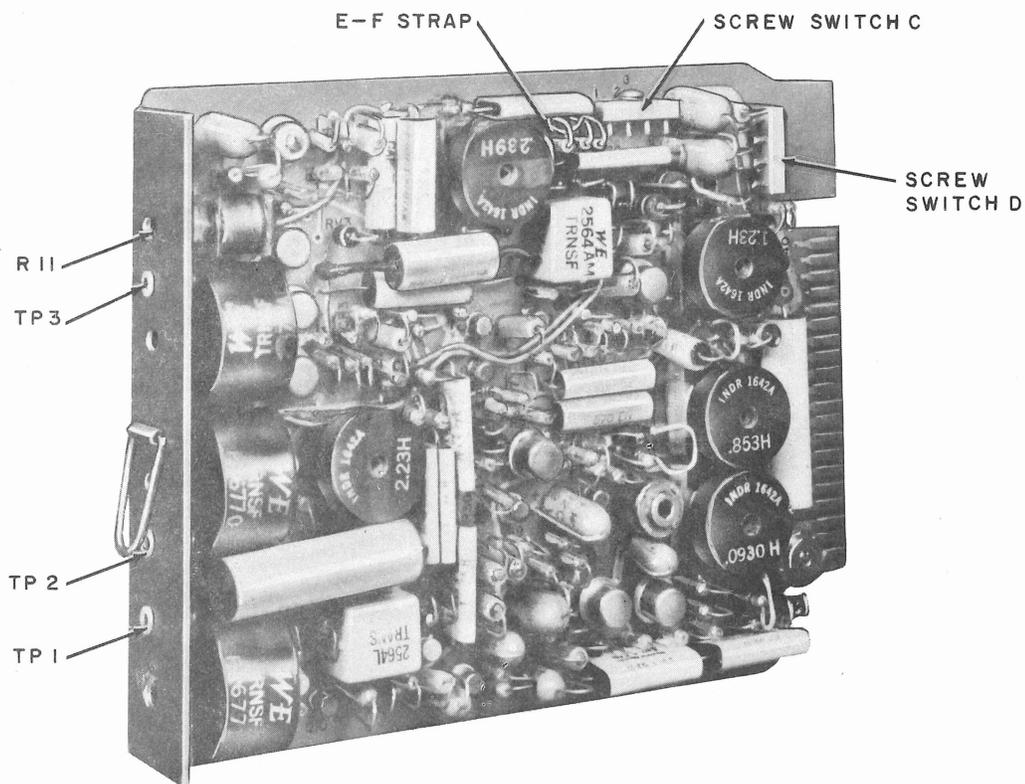

Fig. 6—Data Set 108A-Type—Location of Test Points and Screw Switches
**7.02** Connect terminals + and - of Portable Station Test Set TTS-28 to TP 1 and TP 2 of the data set (Fig. 6). Set FUNCTION switch of TTS-28 to DBM 900Ω TERM 0 position.